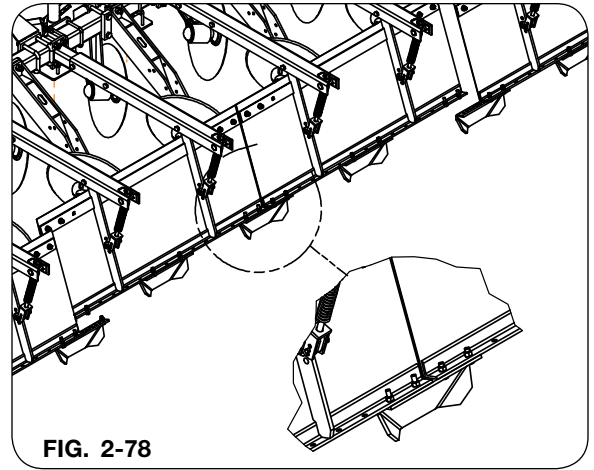

FIG. 2-78
5. Secure the scrapers to the bottom of the panel weldments as shown in Fig. 2-78 and the Overhead Bed Shaper Layouts.
6. Adjust the length of the bed leveler mounting arm (65789B) and mount to the rear of the wing bedder arm tubing as shown in Fig. 2-78.
7. Attach the top of the panel weldment to the leveler mounting arms using the tube/bushings (65770), capscrews 5/8"-11UNC x 4 1/2" (9390-133) and locknuts 5/8"-11UNC (9801) as shown in Fig. 2-78.
8. Attach the spring rod of the leveler mounting arm to the middle of the panel weldment using the clevis pins (900340) and cotter pins (9391-025) as shown in Fig. 2-78.
9. Secure the scrapers to the bottom of the panel weldments as shown in Fig. 2-78, 2-79 and the Overhead Bed Shaper Layouts.